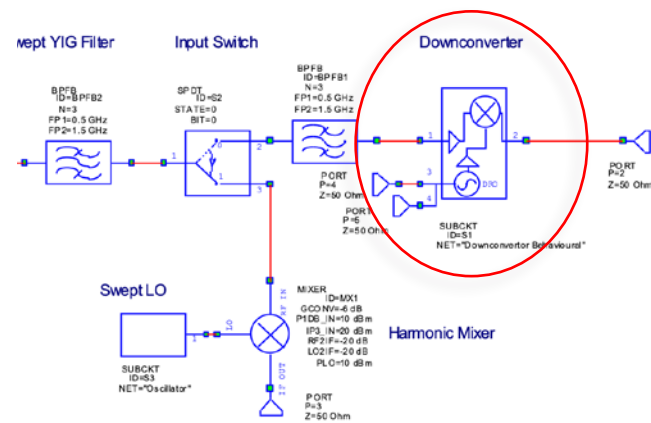

Figure 2: Spectrum analyzer front-end schematic showing downconverter receiver (in red circle).
A downconverter module consists of all the components in a receiver that process an incoming RF signal before conversion to a lower intermediate-frequency (IF) range for further processing. Performance parameters include input/output frequency range, conversion gain, noise figure (NF), input/output power, return loss, spurious tones, power consumption, number of channels, and operating temperature. In addition to these electrical requirements, the spectrum analyzer test equipment application requires a specific mechanical footprint and I/O connector positioning. The following example illustrates the high-level design and system analysis of the downconverter module within a spectrum analyzer front-end. Part of the RF front-end of the receiver is shown in Figure 2, with the downconverter module circled in red.